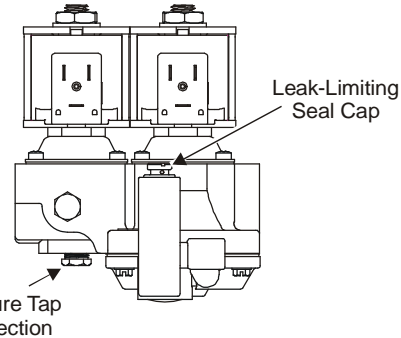

Figure 2: G96 Model with Left-Handed Top Adjust Regulator
9. Determine outlet pressure. An outlet pressure tap connection is available on the underside of the valve body (see Figure 2). To monitor the outlet pressure, remove the pressure tap plug and install an approved pressure monitoring fitting in the pressure connection.
10. Set the valve to the desired outlet pressure. Refer to the *Setup and Adjustments* section for specific adjustment procedures. After making valve adjustments, ensure that the leak-limiting seal cap and pressure tap plug are replaced tightly. See Figure 2.
To adjust the outlet pressure, remove the leak-limiting seal cap to expose the adjusting screw (see Figure 2). Turn the screw (using a suitable screwdriver) in a clockwise direction to increase the pressure or in a counterclockwise direction to decrease the pressure.